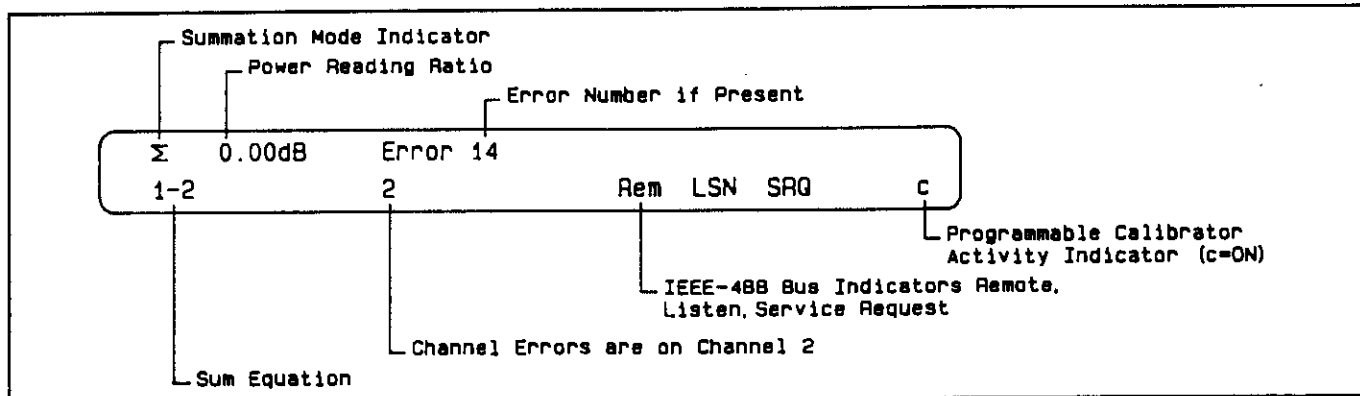

Figure 3-6. Summation Display.
1. Refer to Paragraph 3-7, Multi-Channel Operation and perform steps 1 through 10. Refer to Figure 3-6 for a Summation Operation Display (Sample).